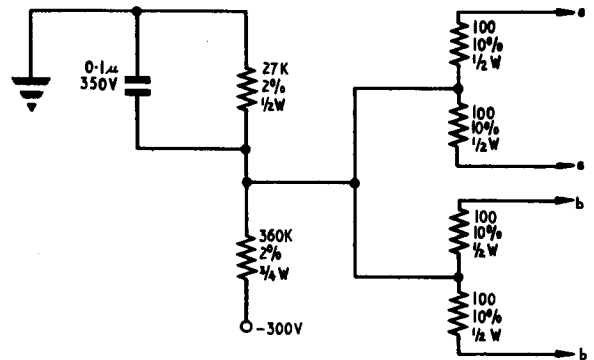

Fig. 9. Heater levels on Y deflection amplifier (314)
- (3) *On the 314 only*, the heater supplies (a) and (b) should be held to a negative level by the improvised resistor network shown in fig. 9.